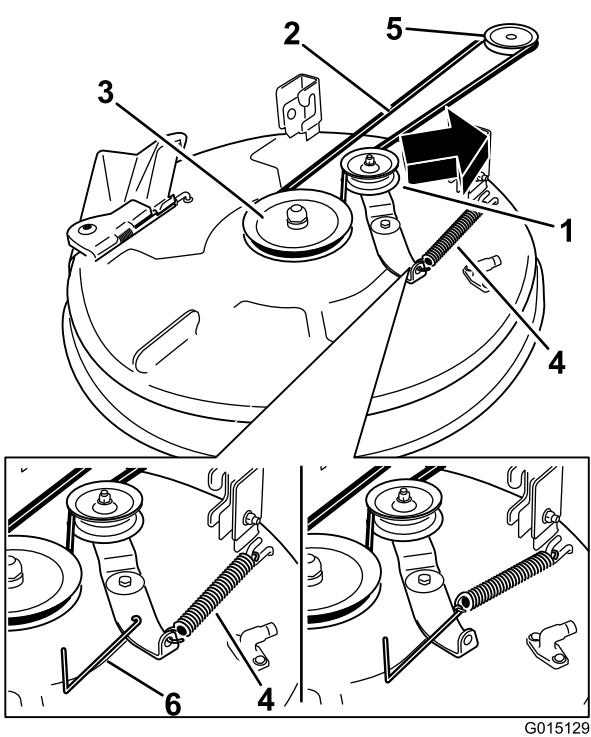
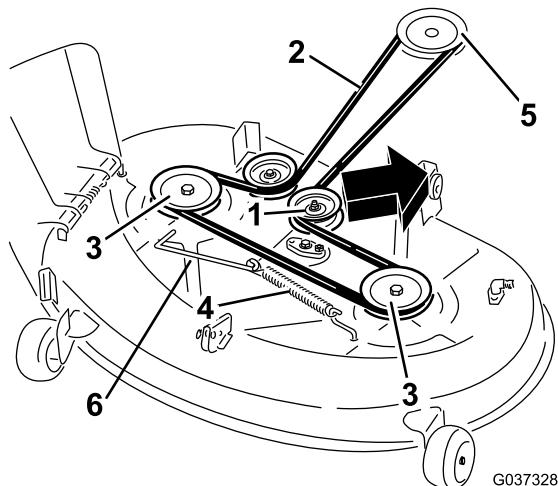

Figure 63
Figure 64
5. Using a spring-removal tool (Toro part no. 92-5771), remove the idler spring from the deck hook to remove tension on the idler pulley, and roll the belt off of the pulleys (Figure 63 and Figure 64).
- 6. Route the new belt around the engine pulley and mower pulleys (Figure 63 and Figure 64).
- 7. Using a spring-removal tool (Toro Part Number 92-5771), install the idler spring over the deck hook and place tension on the idler pulley and the mower belt (Figure 63 and Figure 64).